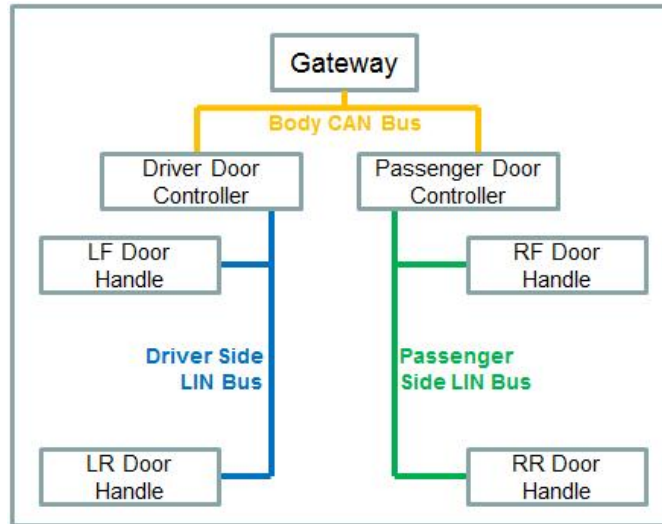

Figure 3
- a. Ensure that the door controller is functional by checking correct operation of the other door handle on the same side of the vehicle. Each door controller is responsible for one side of the vehicle (Figure 3).